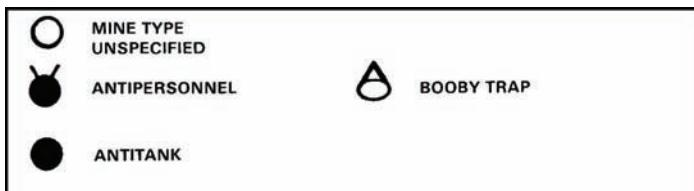

Figure 071-329-1019-13. Mine symbols
- m. Indirect fire symbols (figure 071-329-1019-14).